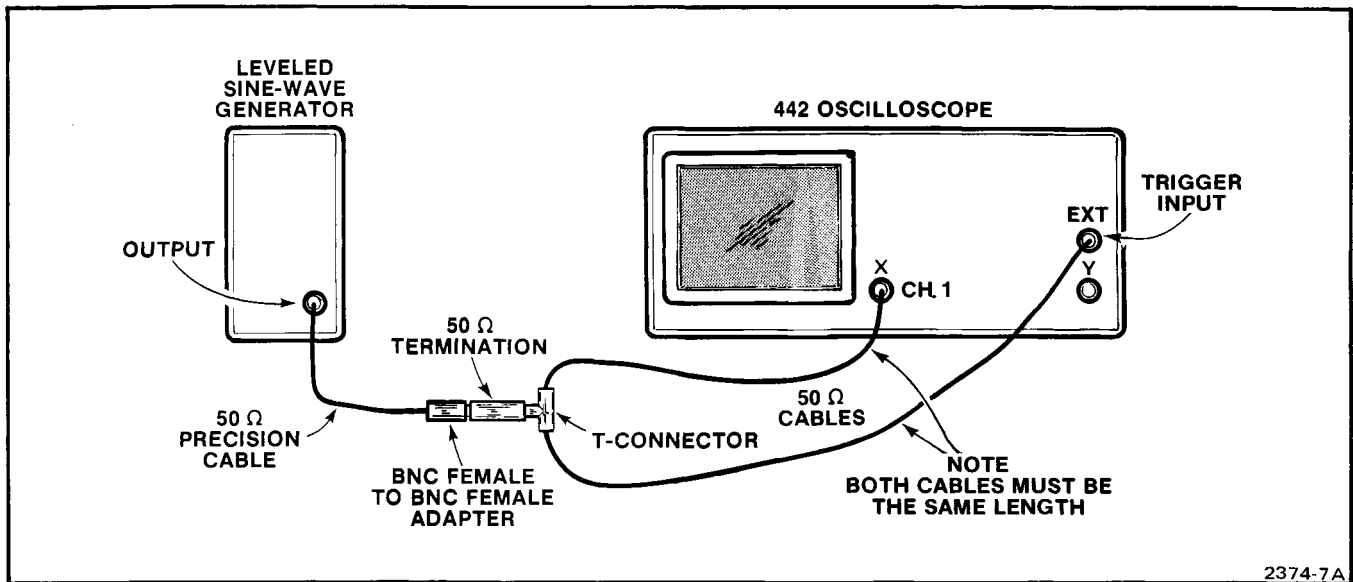

Figure 4-3. Triggering and Z-Axis input check test setup.
a. Connect the test equipment as shown in Figure 4-3.
b. Connect the test equipment as shown in Figure 4-3 (with 50 Ω termination) and set the sine-wave generator for a 5-division 50 kHz display.